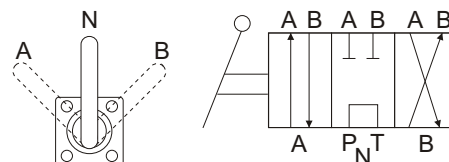

Fig. 4.2
4.2 Manual Control Valve (Fig.4.2)